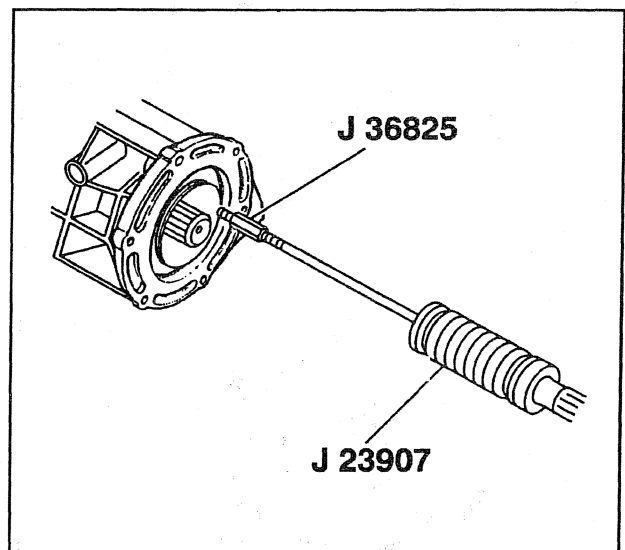

Figure 8—Extension Housing Seal Removal (4WD Models)
Remove or Disconnect (Figure 8)
3. Seal, using J 23907 and J 36825 (figure 8).